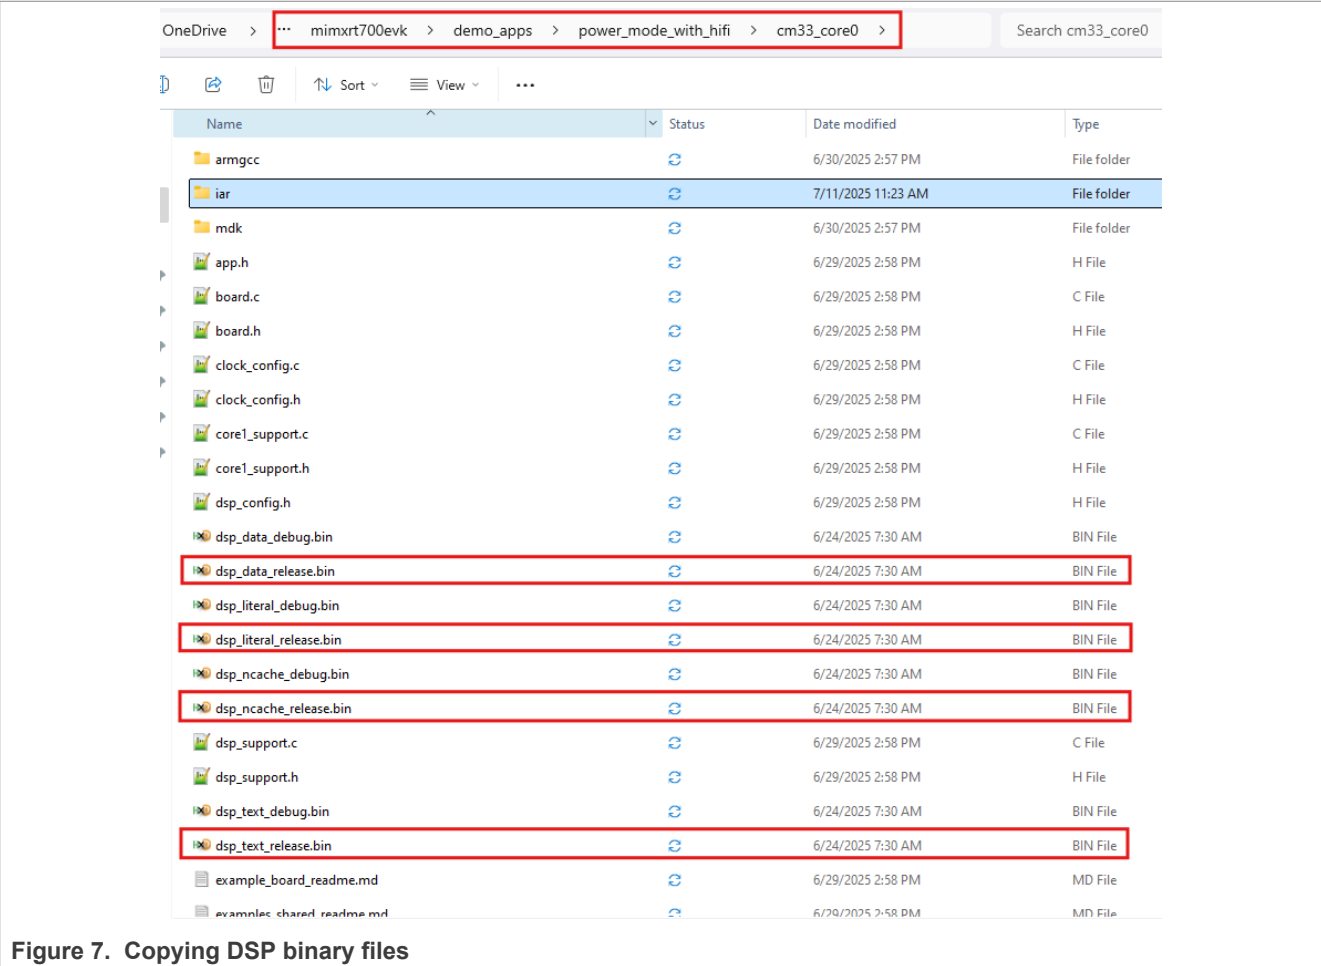

Figure 7. Copying DSP binary files
5. Copy the following DSP binary files into the `power_mode_with_hifi` project folder, as shown in Figure 7: